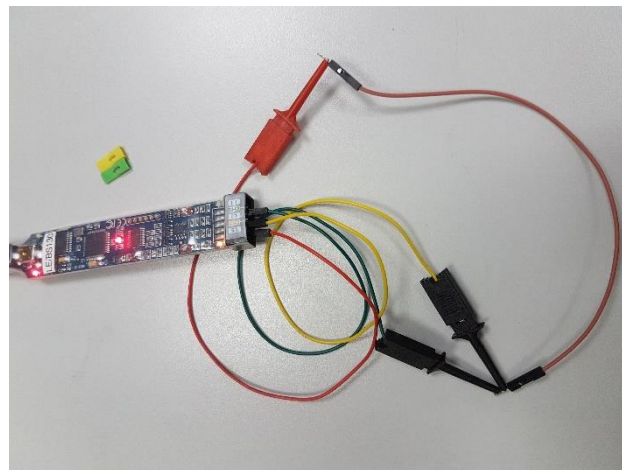

Figure 6. Probes connection for simple loop-back test.
- Connect another two test probes, one to CHA and another to CHB. Connect both their mini-grabbers to the other end of the wire, as shown in Figure 6.